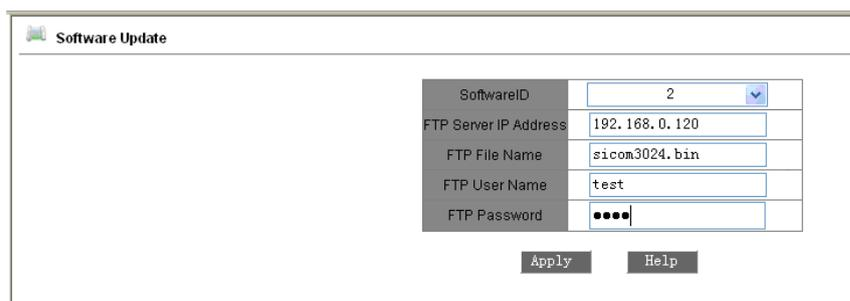

Figure 3-6 Software Update
1. Enter WEB management page, select the “software update” to set Update, as Figure 3-6: